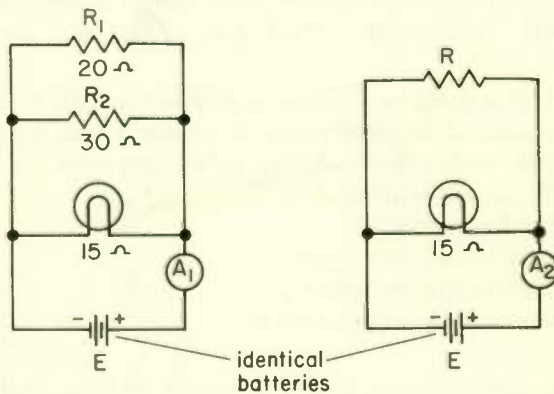

Fig. 51
- (1) 3 mA (2) 6 mA (3) 11 mA (4) 15 mA (5) 16 mA (6) 18 mA (7) 36 mA (8) None of the above
13. What value must R in Fig. 51 have if ammeters A_1 and A_2 read the same?